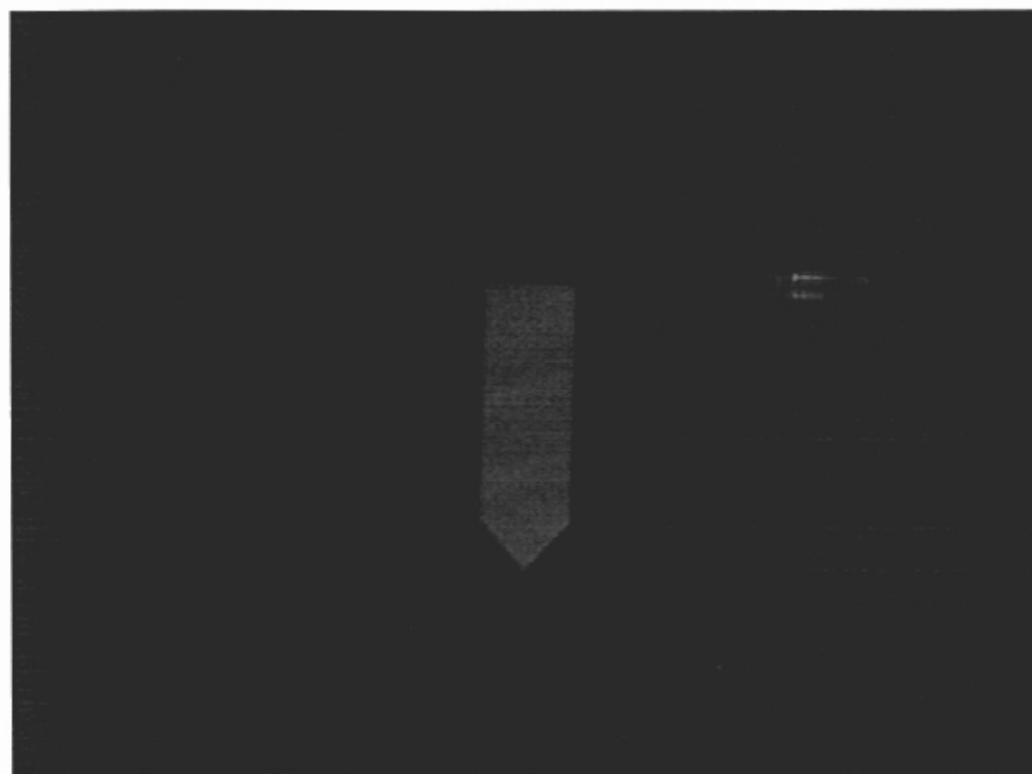

Figure 3
- With the laser spot on the edge of cantilever substrate, turn the X laser position. You should see the laser spot move along the edge of the cantilever substrate (Figure 3).